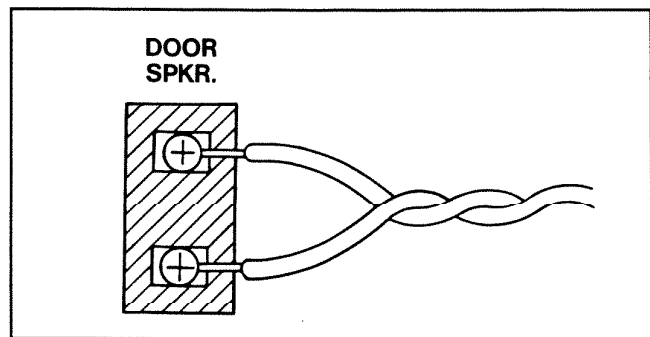

FIGURE 9
2. Connect two wires from the door speaker to the two terminal screws marked **DOOR SPKR** on the terminal board. See Figure 9.